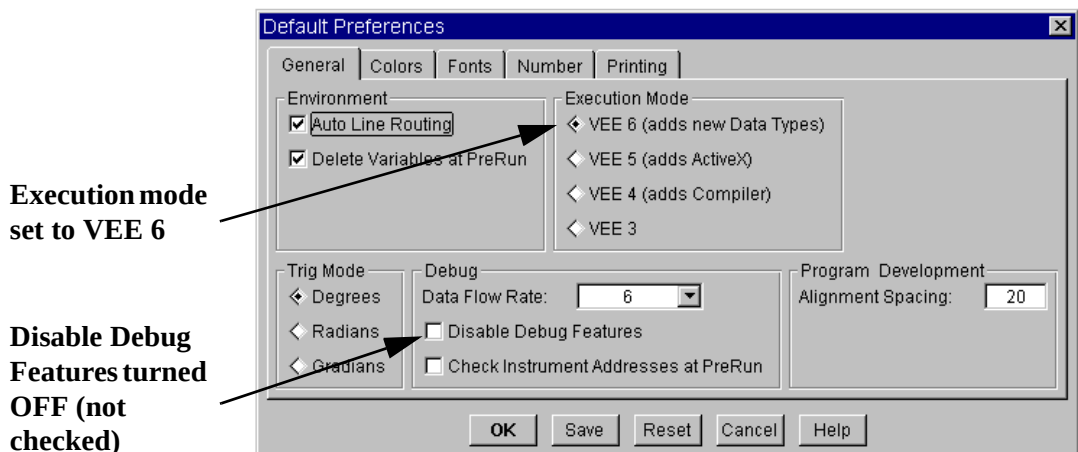

Figure 9-12. Changing the Execution Mode in Default Preferences
2. In the General folder (already displayed, since it is the first folder), under Execution Mode, select VEE 6.0 as shown in Figure 9-12. In the same folder, make sure that Disable Debug Features is *not* selected. Click OK.